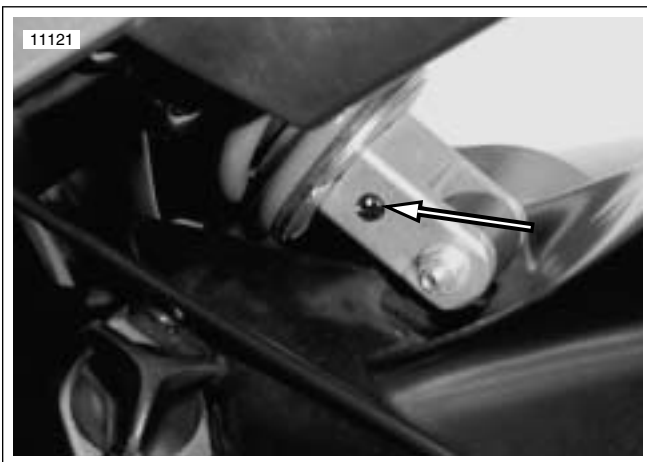

Figure 1-38. Rear Shock Rebound Adjustment Dial
1. See Figure 1-38. Using a screwdriver, turn the slotted rebound adjustment dial clockwise until it stops. This is the maximum rebound damping setting.